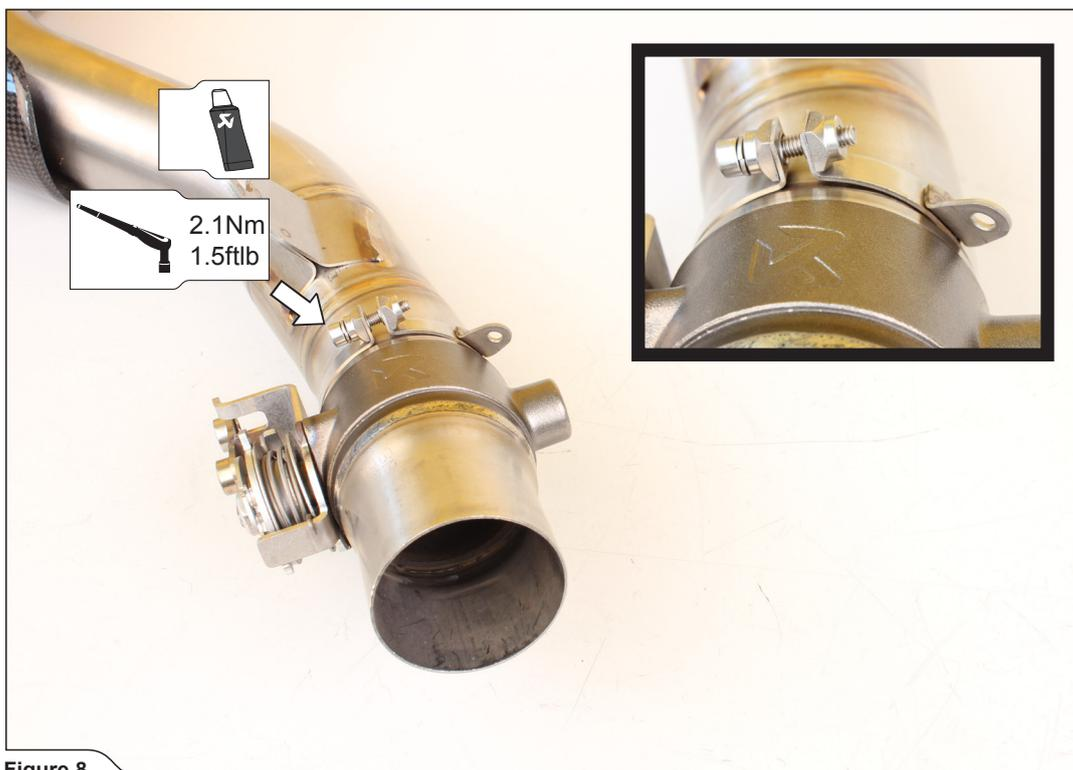

Figure 8
5. Install the spring hook clamp onto the muffler's inlet pipe, as shown (Figure 8).